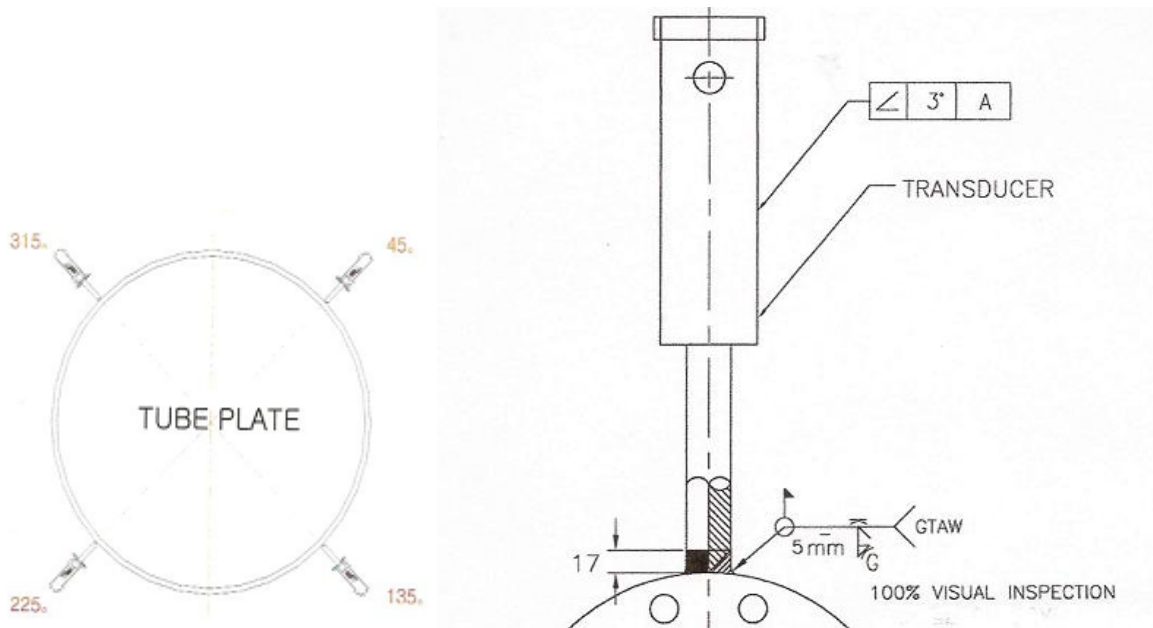

Figure 4: Example Weld Instruction Drawing
- ① MORKO will evaluate the application and give instructions with respect to the location and placement of the USP transducers(See the figure4).
- ② To maximize the USP effect, the USP installation should take place after the equipment has been cleaned. For heat transfer performance USP has been shown to be more effective when the system starts from a clean condition.
- ③ The welding process must be done while the equipment is off-line to remove the risks associated with high process fluid pressure and to eliminate flammable gases or liquids inside the process equipment barriers.
- ① The welding should be done by a qualified expert journeyman welder under the supervision of a welding inspector.
- ② The welding should be done while the system is off-line and any process fluids should be removed from the system, and any pressure or flammable gases inside the vessel or process piping should be removed.
- ③ After cleaning and preparing the welding surface by sandpaper or grinder, the expert welder shall use the GTAW (Argon) procedure. Welding Inspection is recommended.
(See the figures 4 and 5 below)